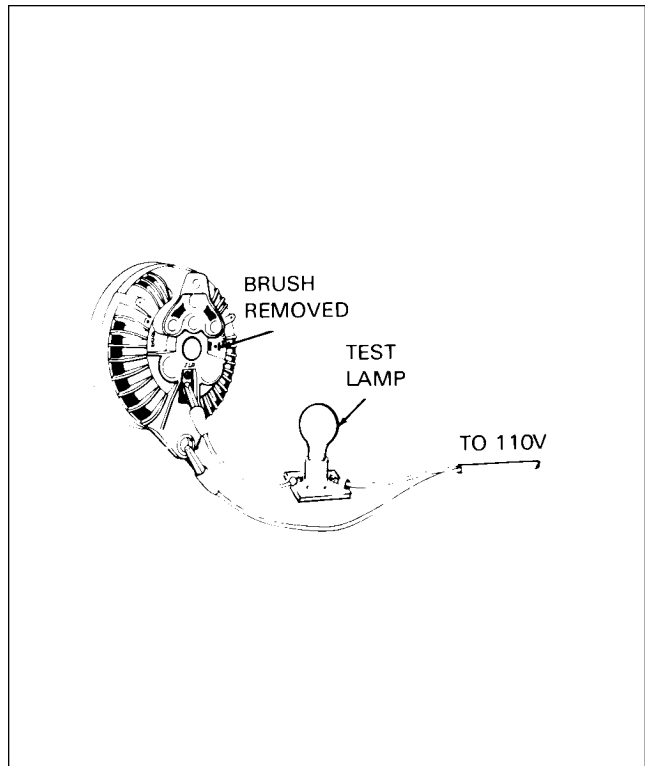

Figure 24-4. Testing Field Circuit
1. Remove the ground brush and place one test probe of a 110-volt test lamp to the field terminal. Attach the remaining test probe to a machined surface at one of the alternator end shields. The test lamp should not light. (Refer to Figure 24-4.)